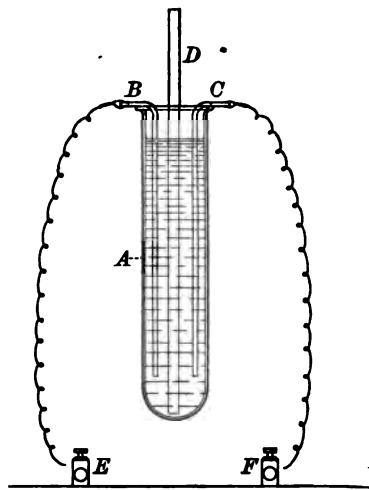

FIG. 55
**213. The storage battery.** *a.* Prepare the apparatus illustrated in Fig. 55. The tube *A* is the large test tube that was used in the preparation of oxygen; *B* and *C* are strips of sheet lead rubbed bright with coarse sandpaper. These strips should be about 1 cm. in width, and should be bent at right angles near one end so as to rest on the rim of the test tube. In this bent end a small hole is made by driving a wire nail through the lead, and a copper wire is passed through the hole and twisted to a tight connection. When the lead plates are suspended in the tube *A*, they must be far enough apart to be separated by a glass tube *D*, so as to prevent short-circuiting. The whole cell may be slipped into a wide-mouthed bottle as a support. *E* and *F* are binding-posts, terminals of two storage cells connected in series.